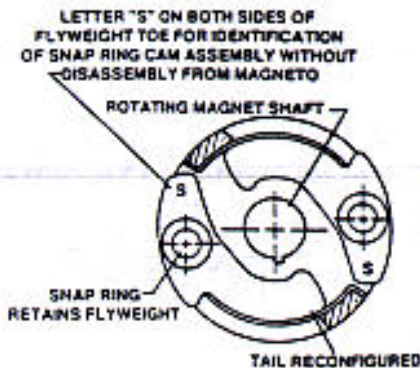

FIGURE 6. SNAP-RING CAM ASSEMBLY IDENTIFICATION
- C. As an alternative to recurring 100 hour inspections of RIVETED impulse couplings, operators may at any time either install improved snap-ring impulse coupling cam assemblies (see Detailed Instructions, Paragraph 2) or retrofit to Shower-of-Sparks Ignition where possible. Magnetos retrofitted with snap-ring impulse coupling cam assemblies may be identified as shown in Figure 6. Magnetos retrofitted to Shower-of-Sparks may be identified by part number.